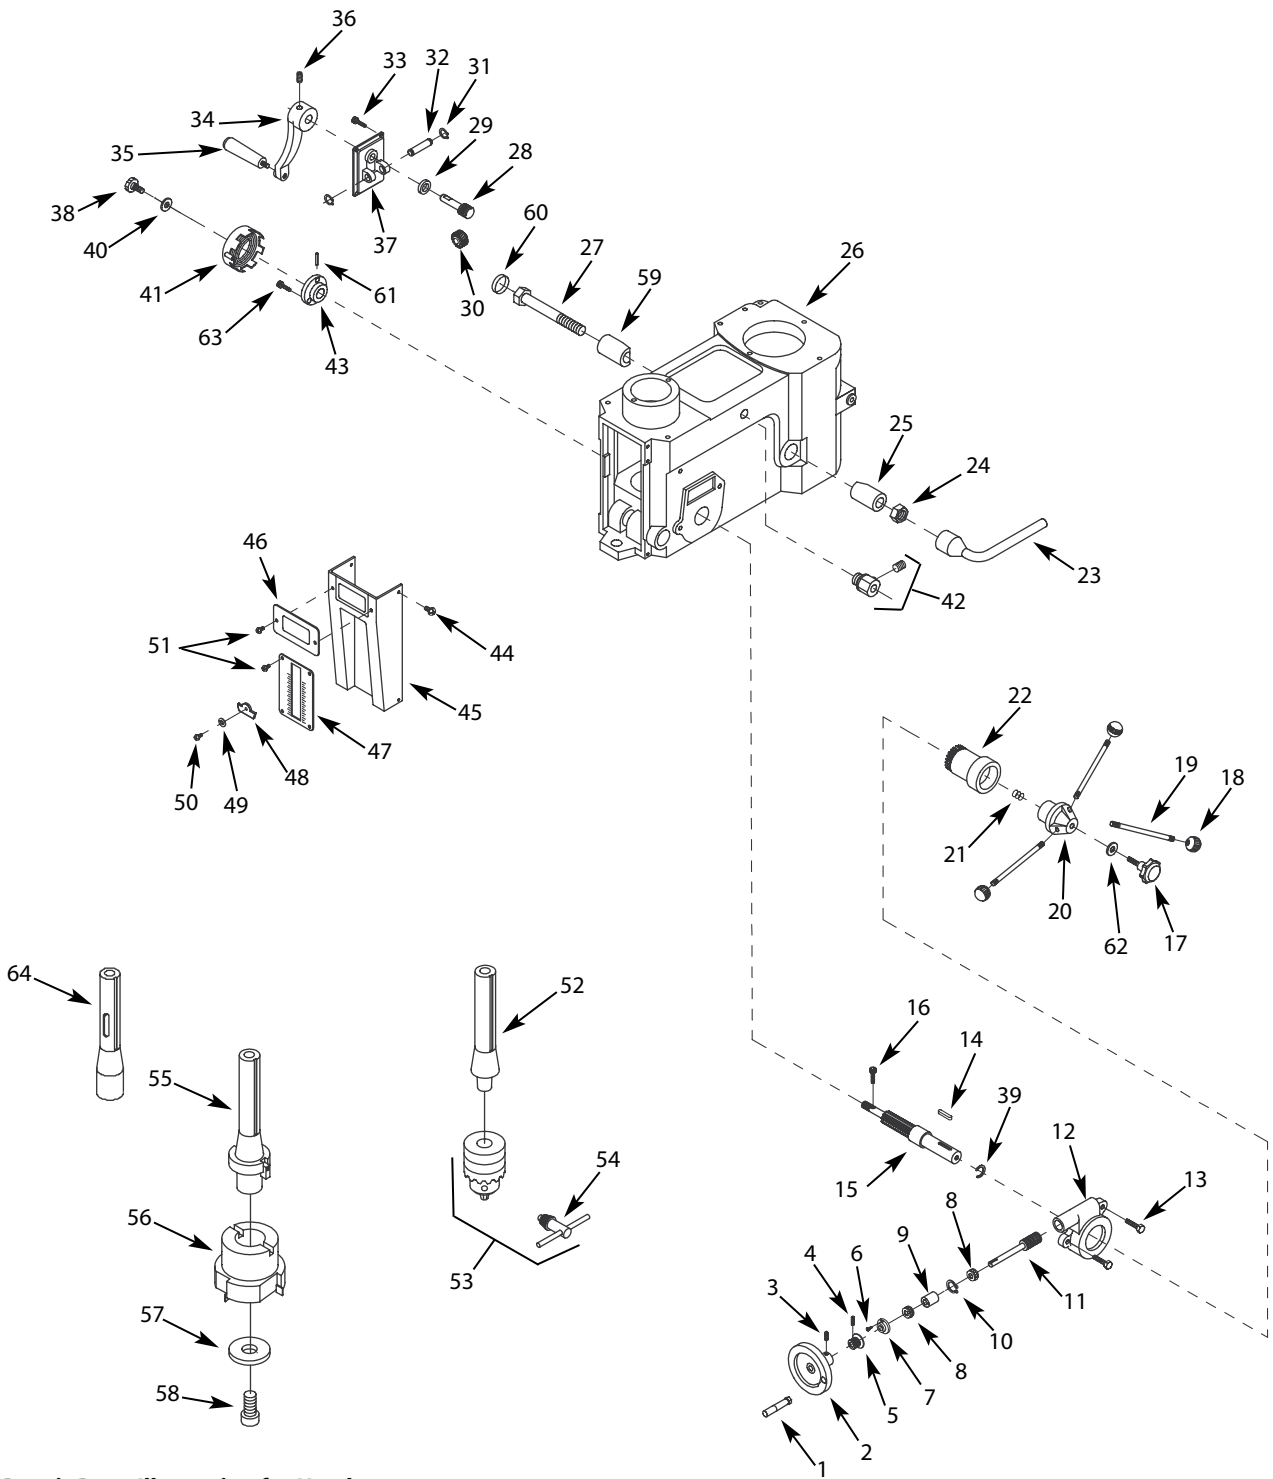
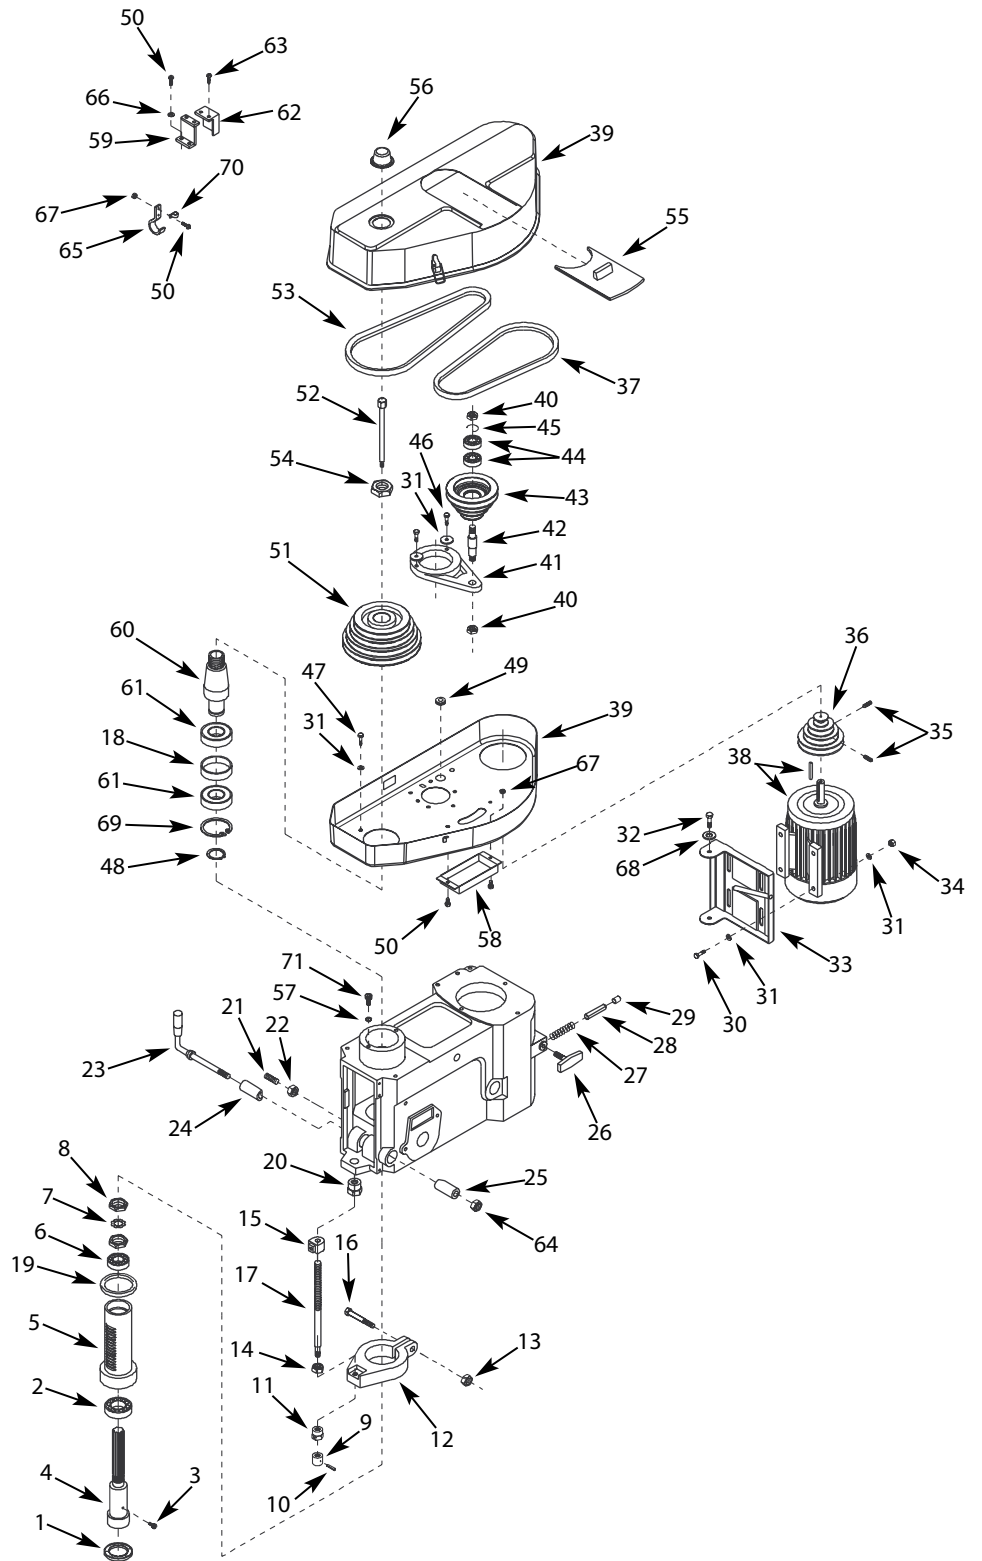
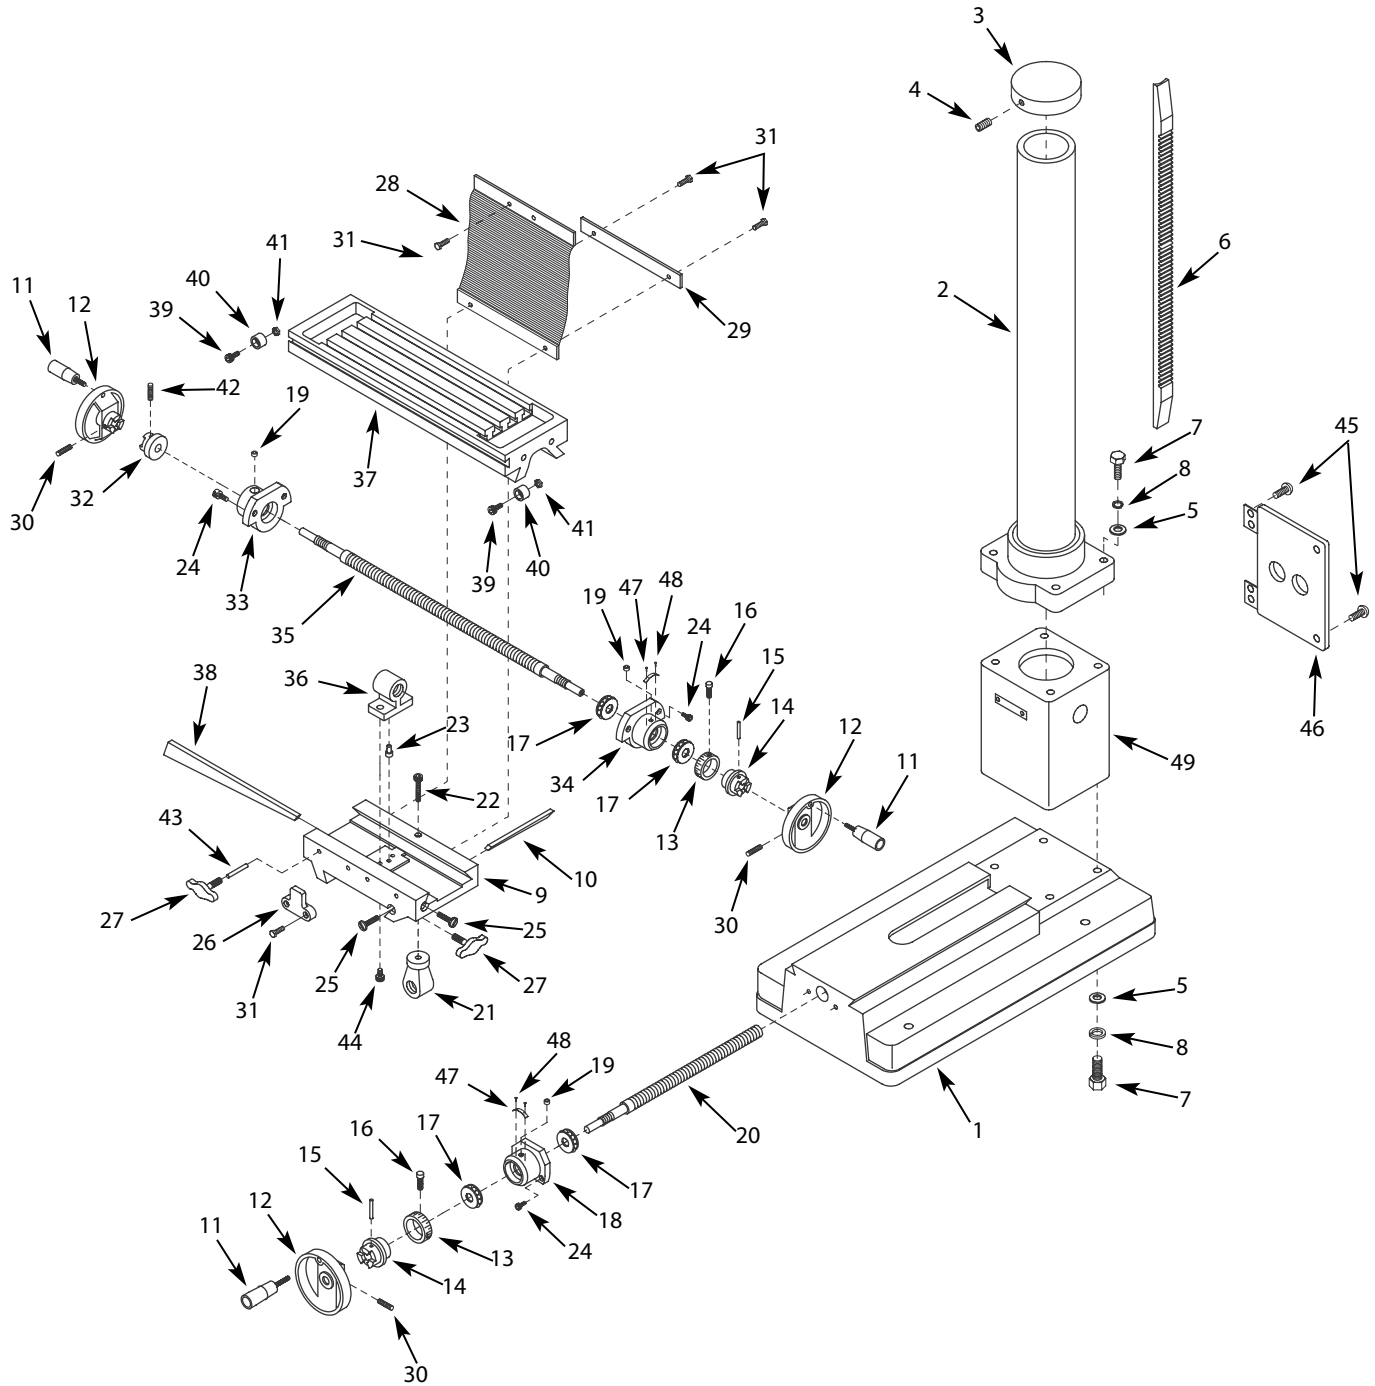

Figure 6 – Repair Parts Illustration for Head
Figure 7 – Repair Parts Illustration for Head
Figure 8 – Repair Parts Illustration for Base
Refer to Figures 6 and 7.
Engage fine feed handwheel (Figure 6, Ref. No. 2) by rotating pinion knob clockwise (Figure 6, Ref. No. 17) until tight. Disengage fine feed by loosening pinion knob.
Repeated operations where depth of cut is consistent are made easier by using depth scale (Figure 6, Ref. No. 47) and depth setting knob (Figure 7, Ref. No. 9).
Depth of cut is shown on depth scale and indicated by depth indicator (Figure 6, Ref. No. 48).
Refer to Figure 6 and 7.
To replace return spring, push spindle to fully up position and lock it in place by tightening quill lock handle (Figure 7, Ref. No. 23).
Loosen spring cover knob (Figure 6, Ref. No. 38) slowly and carefully rotate spring and cover clockwise to relax spring tension.
Remove spring cover knob and washer (Figure 6, Ref. No. 38 and 40). When tension is released, rotate spring and cover clockwise to release spring from mounting screw.
Test spring tension by pulling down on crank handle (Figure 6, Ref. No. 19). Adjust spring tension as needed.
**Overtightening spring causes quill to return with excessive force damaging quill and rubber bumper (Figure 7, Ref. Nos. 5 and 19).**
Refer to Figures 6, 7 and 8.
- Apply five to six drops of oil on splines at the top of spindle (Figure 7, Ref. No. 4).
- Oil cross feed lead screw (Figure 8, Ref. No. 20).
- Oil handwheel bearings through oil fittings (Figure 8, Ref. No. 19).
- Oil gear rack on back of quill where pinion shaft (Figure 6, Ref. No. 15) engages quill (Figure 7, Ref. No. 5).
- Oil depth stop lead screw (Figure 7, Ref. No. 17).
- Apply bearing grease to rack (Figure 8, Ref. No. 6) and pinion shaft (Figure 6, Ref. No. 15). Remove pinion knob and handle base (Figure 6, Ref. Nos. 17 and 20) to expose pinion shaft.
- Grease longitudinal lead screw (Figure 8, Ref. No. 35).